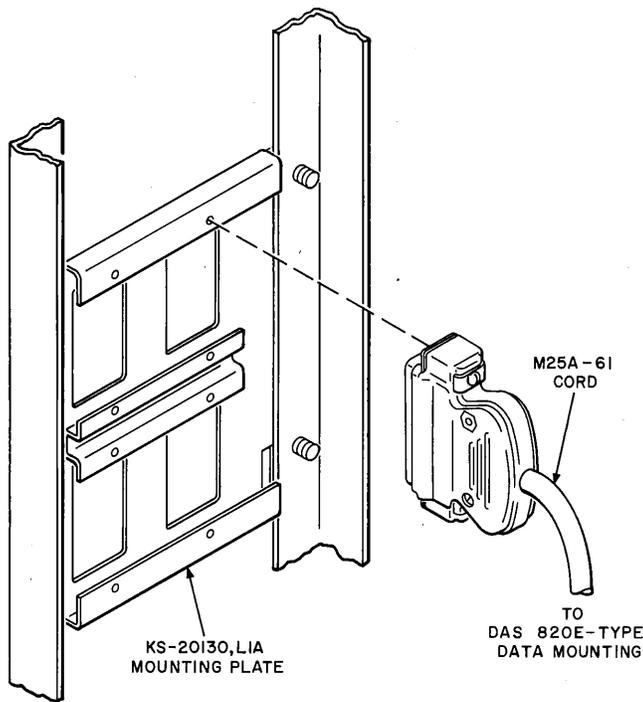

Fig. 10—Details for Mounting M25A-61 Cord in Customer's Interface Section of KS-20093 L1 Cabinet
- (2) Install a KS-20130 L1B mounting plate where a KS-20130 L1A mounting plate is not installed. The KS-20130 L1B is mounted with the screws provided and in the same manner as the KS-20130 L1A is mounted. **Completely tighten the screws.**
- (3) Connect three M25A-61 cords (male end) to the respective CUST TERM connectors (connectors J3) on each DAS 820E2 installed (Fig. 1). Route the cords through the vacant space as indicated in Fig. 7, through the cutout at the left of the cabinet, and connect the female end of each cord to the respective position on the KS-20130 L1A mounting plate as shown in Fig. 10.